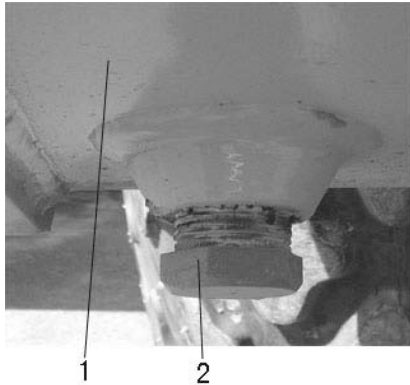

Figure 3-23
3.4.5.1 Clear condensation and sediments in the hydraulic oil tank (figure 3-23)
3.4.6.1 Replace the hydraulic oil (figure 3-2, figure 3-20, figure 3-23)